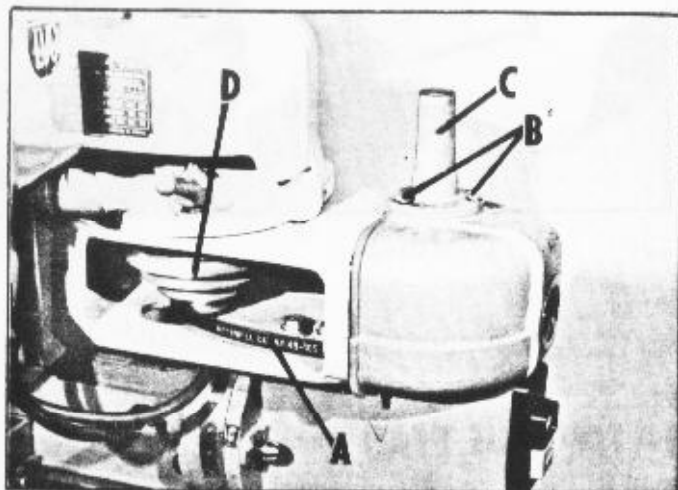

Fig. 18
If it ever becomes necessary to replace the lower belt (A) Fig. 18, proceed as follows:
2. Remove three screws (B) on cap (C) Fig. 18, and remove cap.
4. Release belt tension on the lower belt and remove belt from underneath jackshaft pulley (D) and over the top of the spindle pulley.